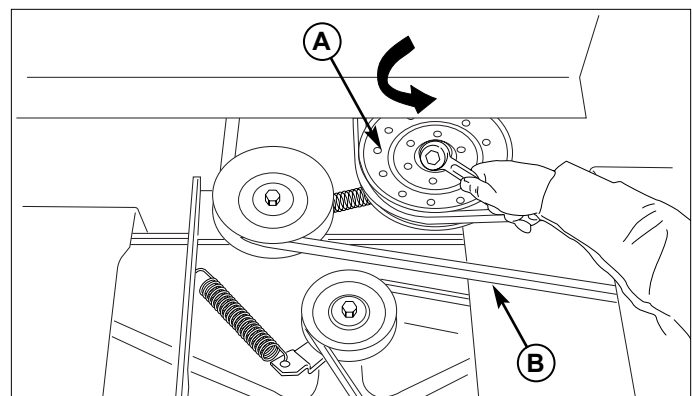
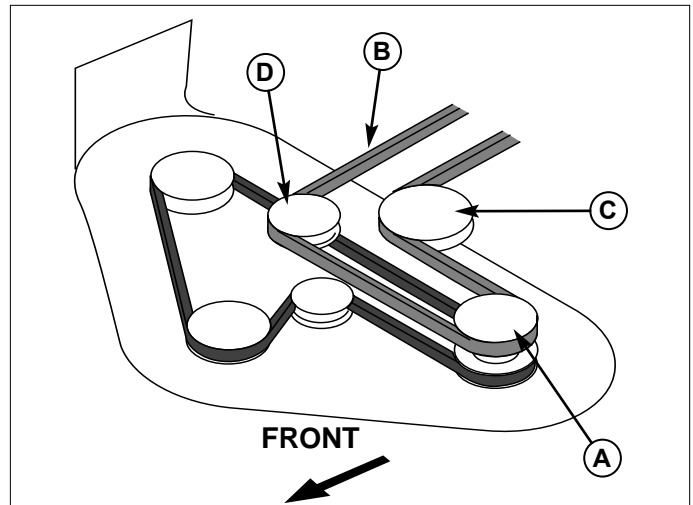

Figure 11. Mower PTO Belt
Figure 13. Mower PTO Belt Routing
8. Release the spring tension on the deck drive belt with a wrench on top of the idler pulley (A, Figure 11). Slide the drive belt over the edge of the idler pulley to remove the belt. Remove the belt from the PTO clutch pulley groove before proceeding.
9. Install the drive belt on the PTO pulley, the arbor pulley and V-sided idler pulley. Release the spring tension on the idler pulley (A, Figure 11) and install the belt onto the pulley. Make sure the V-side of the belt runs in the pulley grooves (Figure 13).